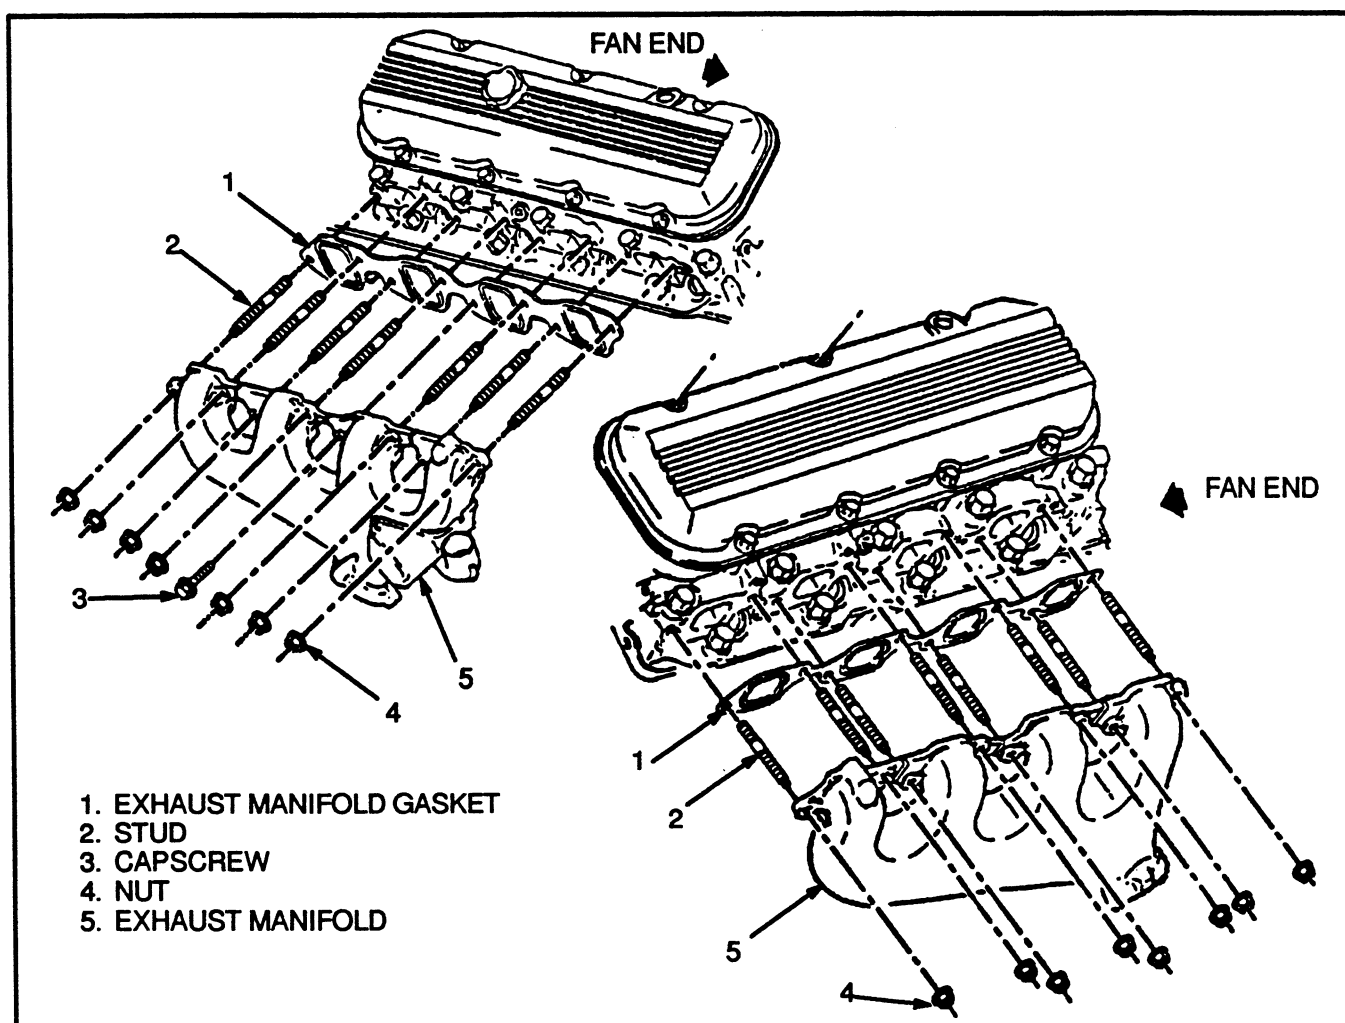

FIGURE 4. EXHAUST MANIFOLD
7. Remove the exhaust manifold. See FIGURE 4.